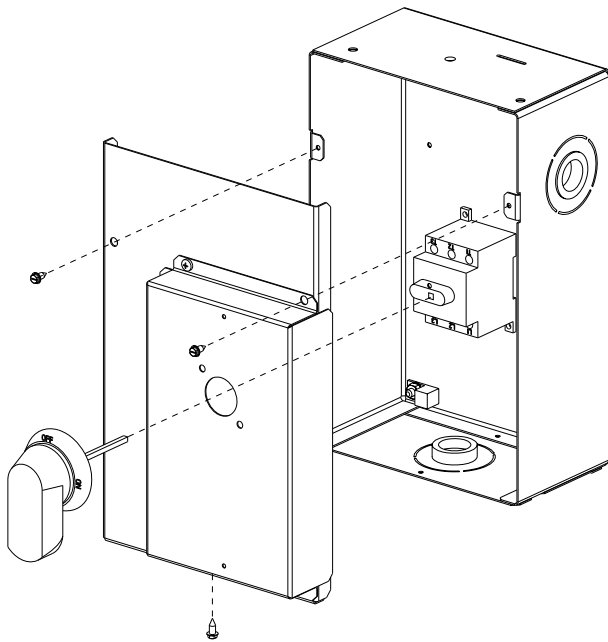

Fig. 32 — Handle and Shaft Assembly for NFD
2. Remove (3) hex screws on the NFD enclosure - (2) on the face of the cover and (1) on the bottom (see Fig. 32).
9. Secure the handle to the painted cover with (2) screws and lock washers supplied.
10. Engaging the shaft into the handle socket, re-install (3) hex screws on the NFD enclosure.